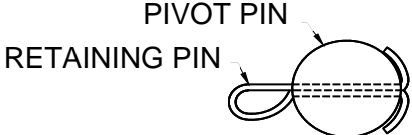

Figure 5
3. Make sure all pivot pins are in position and that all retaining pins are installed correctly. (See Figures 5 and 29)